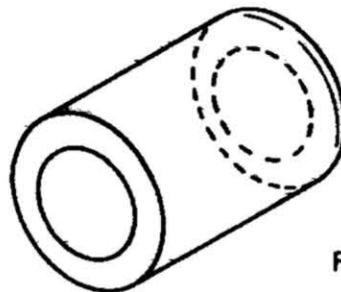

Fig. 4
**A** Glue a centering disk to each end, of each of the coupler tubes, using white glue (see Fig. 4). Allow to dry.